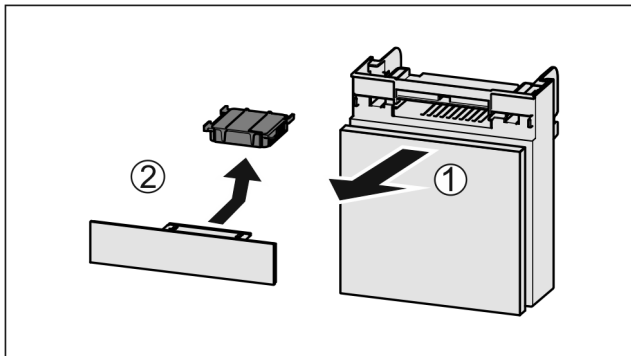

Fig. 174
- Pull out the compartment Fig. 174 (1).
- Remove the carbon filter Fig. 174 (2).